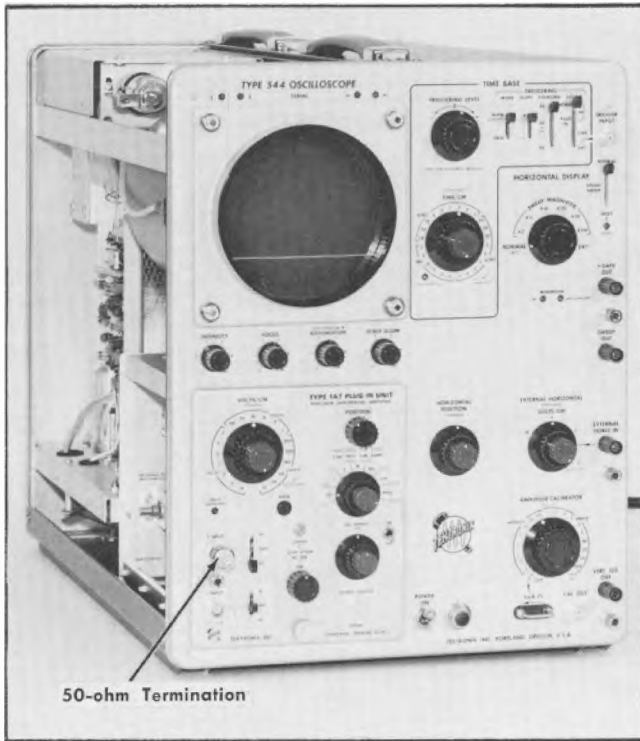

Fig. 6-12. Setup at completion of step 6a.
6. Adjust +GRID CURRENT (R115) ①
a. Connect a 50-ohm termination to the +INPUT connector. See Fig. 6-12 for setup.
7. Adjust —GRID CURRENT (R215) ①
a. Remove the 50-ohm termination from the +INPUT connector and connect it to the —INPUT connector. (This setup is similar to Fig. 6-12 except the termination is now connected to the —INPUT connector.)